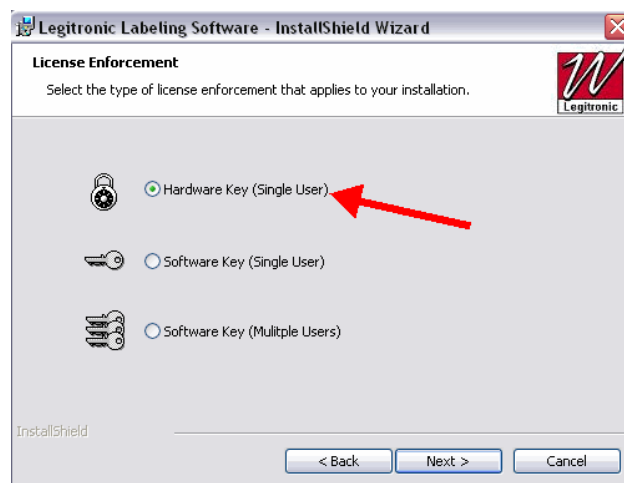

Figure 3-1
3.1.2. Place the Legitronic Labeling Software CD in the CD ROM drive and let it start. Choose the option to install as a **Single User Hardware Key**. (Figure 3-1)